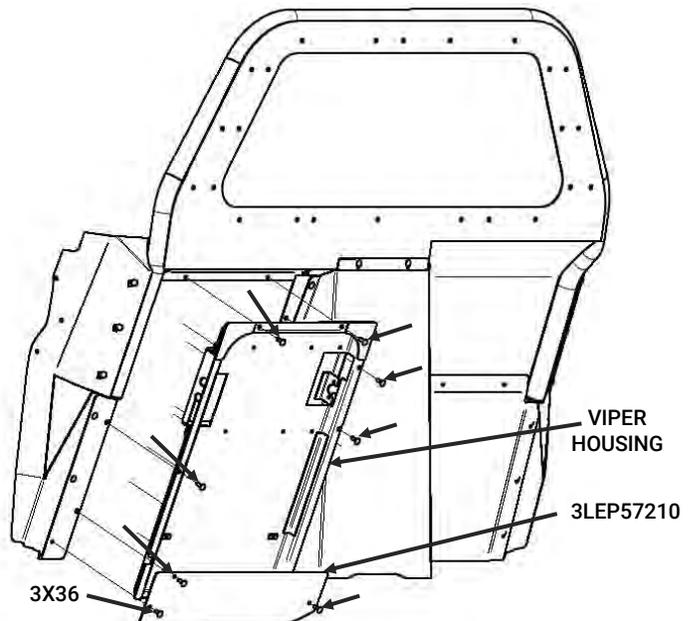

Figure 7
- C. Install Viper shield housing [VSHA0001] using (5) carriage bolts [3X36] and whiz nuts [3X16Z], then add the Viper front retainer [3LEP572105] by fastening at the remaining (3) hole locations. (Figure 7).